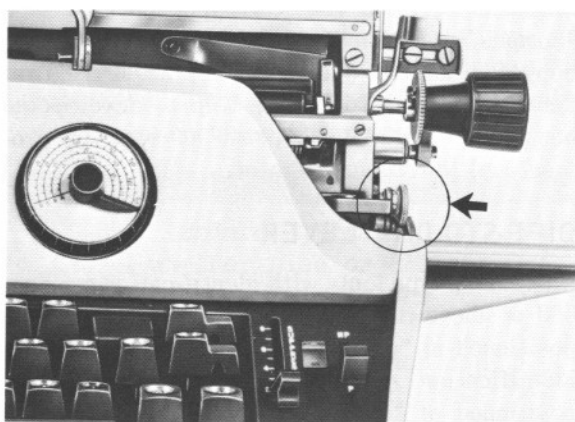

Figure 23b
4. Press the **automatic carriage return and paper feed key (41)** 3 or 4 times to assure that the left margin remains constant (this is easily done by observing the left margin dial for any change in its position). A $\frac{1}{4}$ to $\frac{1}{2}$ turn of the **margin stop adjuster knob (27b)** will "zero-in" the left margin (Figure 23b).
1. Align left margin for constant positioning. After obtaining the proper column width or after changing horizontal spacing, press the automatic carriage return and paper feed key 3 or 4 times to assure that the left margin remains constant (*this is easily done by observing the left margin dial or pointer on plotting scale for any change*). A $\frac{1}{4}$ to $\frac{1}{2}$ turn of the margin stop adjuster knob will "zero-in" the machine if the left margin varies.
- a. To increase column width, turn the margin stop adjuster knob (Figure 23b) away from you.
- b. To decrease column width, turn the margin stop adjuster knob (Figure 23b) toward you.